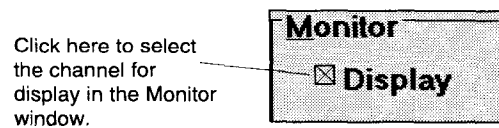

Figure 5-14. Adding a Channel to the Monitor Window
2. Click on the **Monitor Display** check box, as shown in Figure 5-14.